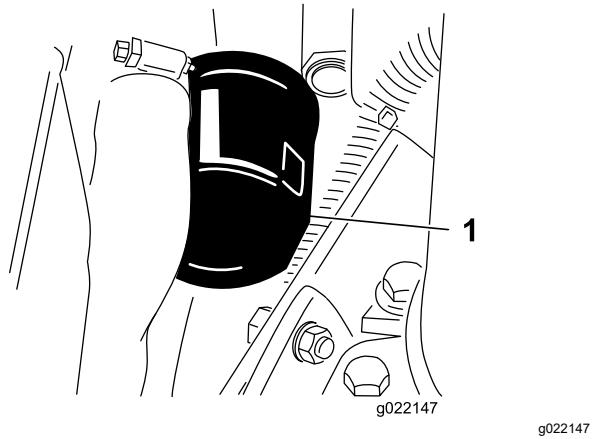

Figure 57
2. Remove the oil filter (Figure 57).